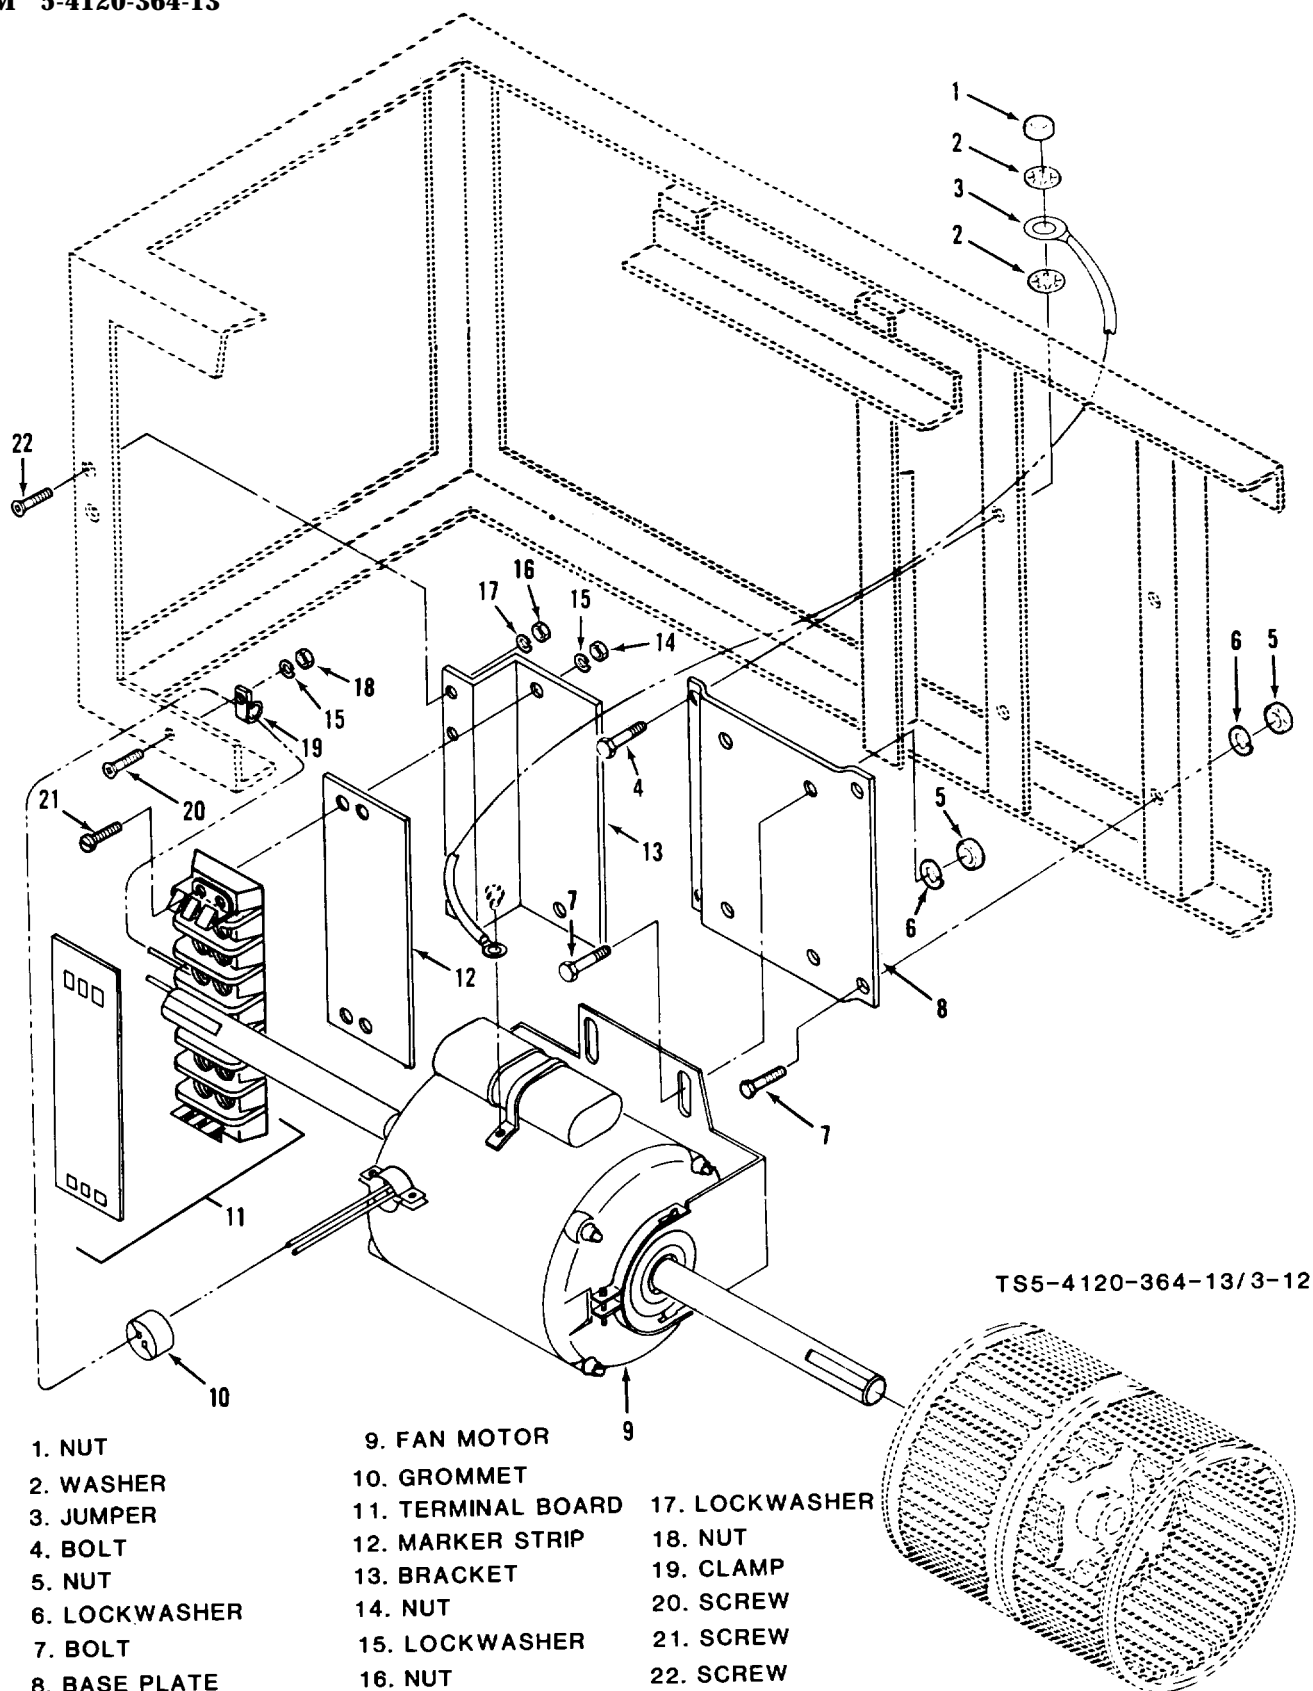

Figure 3-12. Condenser fan section, fan motor and mountings
(g) Disconnect and tag motor leads from terminal board (11, figure 3-12) and remove ground wire (3) from frame and motor.
(d) Match direction of rotation arrows on fans with arrows on fan housings and slide fans on to motor shaft. Position fans in the housings so that they are centered in the housings. Tighten setscrews (26) in fans to secure fans to motor shaft. Tighten motor mounting nuts (5, figure 3-12) to secure rotor to frame and base.
(5) Installation. Refer to figure 3-12 and install covers and panels by turning fasteners (14) one-quarter turn clockwise.